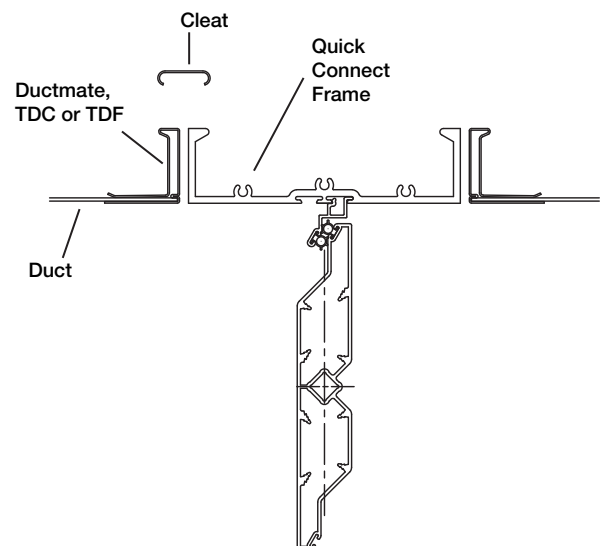

Figure 6
- Install the metal cleat (Figure 6) or #10 tek screw with following recommended spacing: